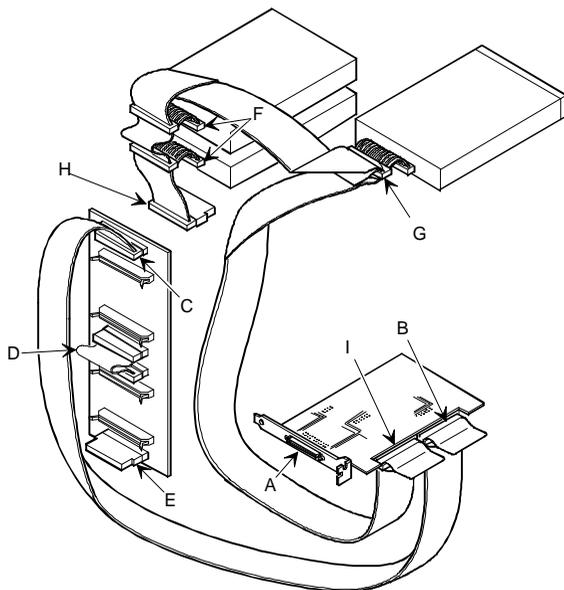

Figure 3 - 24 Dual Channel SCSI Bus Configuration (Two Internal Channels)
- 1) Connect the SCSI cables as shown in Figure 3 - 25. If necessary, connect appropriate power cable to device.